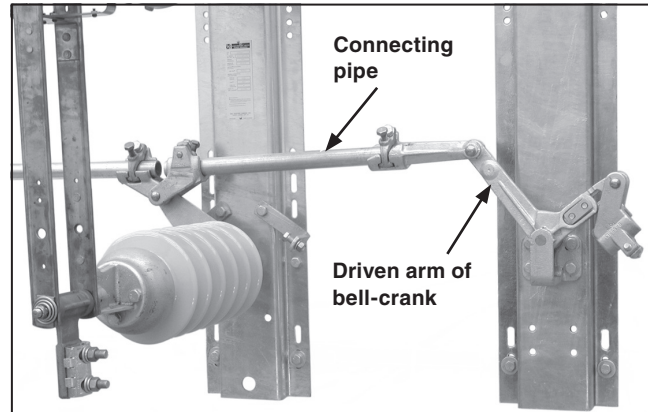

Figure 13. Pipe connecting the bell-crank.
STEP 12. *If the bell-crank assembly is mounted outboard of the switch poles:* Install the pipe section connecting the driven arm of the bell-crank to the nearest switch pole. See Figure 13. Follow the directions in the “Installing Pipe Couplings with Piercing Set Screws” section on page 13.